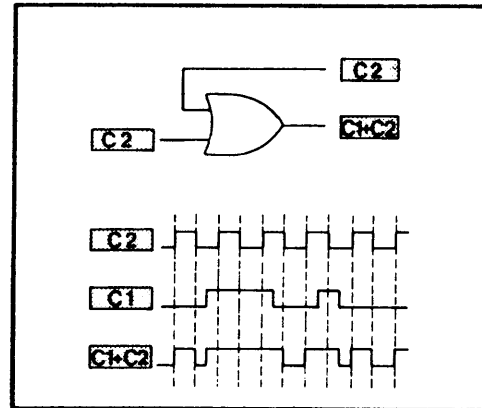

FIGURE 5-14. CLOCK SOURCE PROGRAMMING
5.3.1.9 OR. The External Clocks can be combined in an "OR" function (exactly analogous to a logical OR gate), either with one another or with the Internal Clock. Figure 5-14 shows such an "OR" combination for the External Clocks. The table below lists the "OR" function combinations possible for each pod group. The clock source is programmed individually for each pod group in the CLOCK field heading. Note that when an external clock is applied to Input #1 it controls all pod groups unless otherwise specified in the TRACE MENU programming.